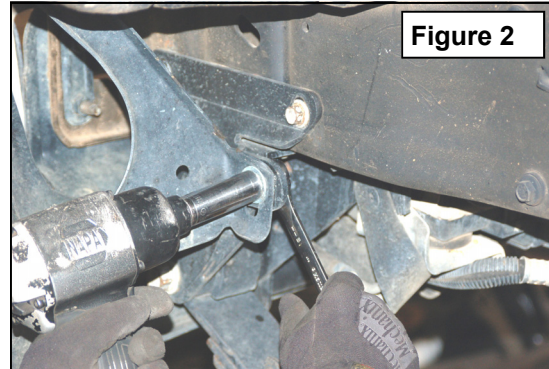

Figure 2
5. Using a 13mm socket remove the bolts that secure the bumper to the front hanger bracket. Retain hardware for reuse. **See Figure 2.**